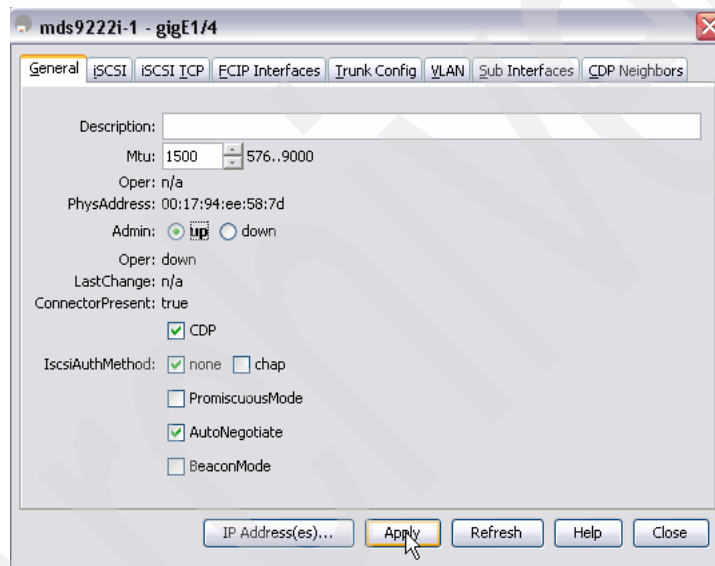

Figure 7-35 Device Manager Interface panel
6. Select the check box **Admin up** and apply our changes (Figure 7-35).